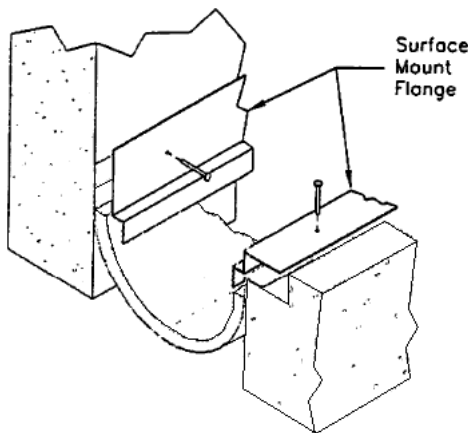

Fig. D2
2. Cut the galvanized flanges to length and drill appropriate size holes with maximum spacing of 18". Install the flanges with appropriate fasteners as shown. (Fig. D2 & E2)